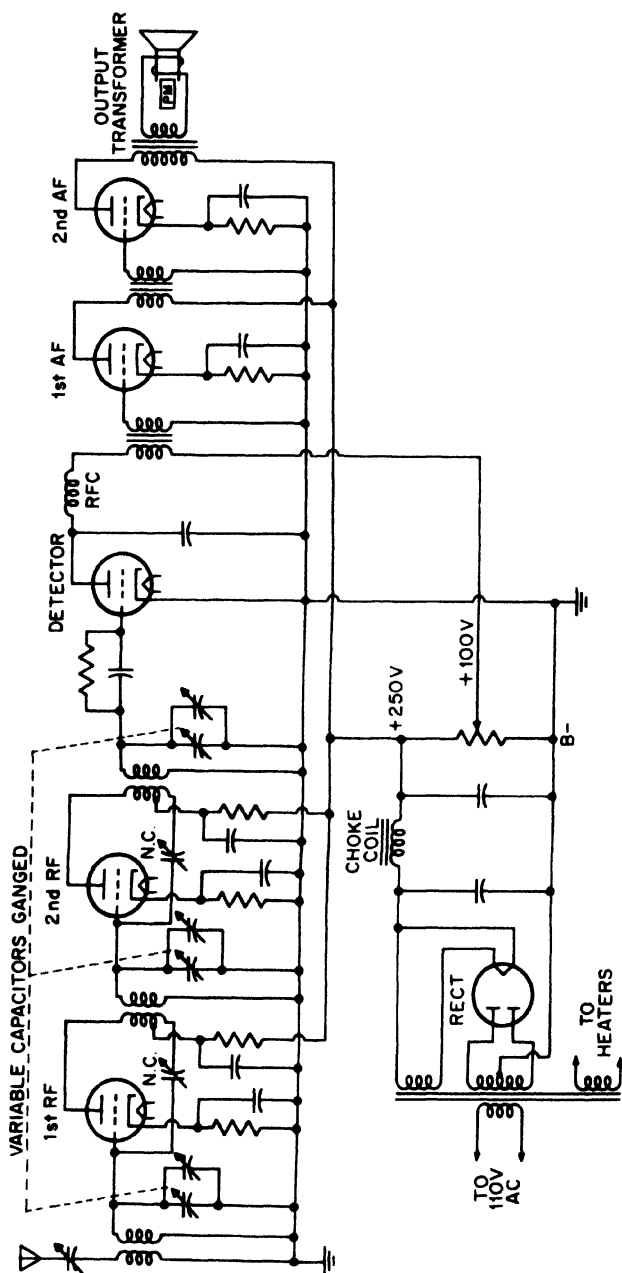

Fig. 23-17. Circuit for a complete, tuned radio-frequency receiver.
**The Five-Tube Set.** Figure 23-17 shows the circuit of a five-tube receiver with two stages of neutralized tuned radio-frequency amplification, a detector, and two stages of transformer-coupled audio-frequency amplification. This set is known as a *tuned radio-frequency (TRF) receiver*.